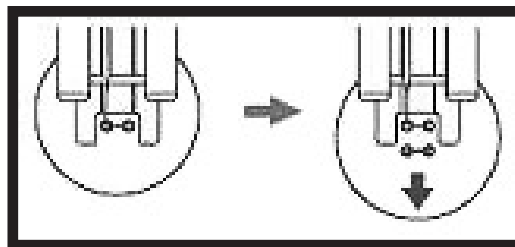

Fig. 3
18. On a four-hole button, stitch the two holes closest to you first and then slide the button so the needle aligns with the remaining holes (Figure 3). Stitch several times.